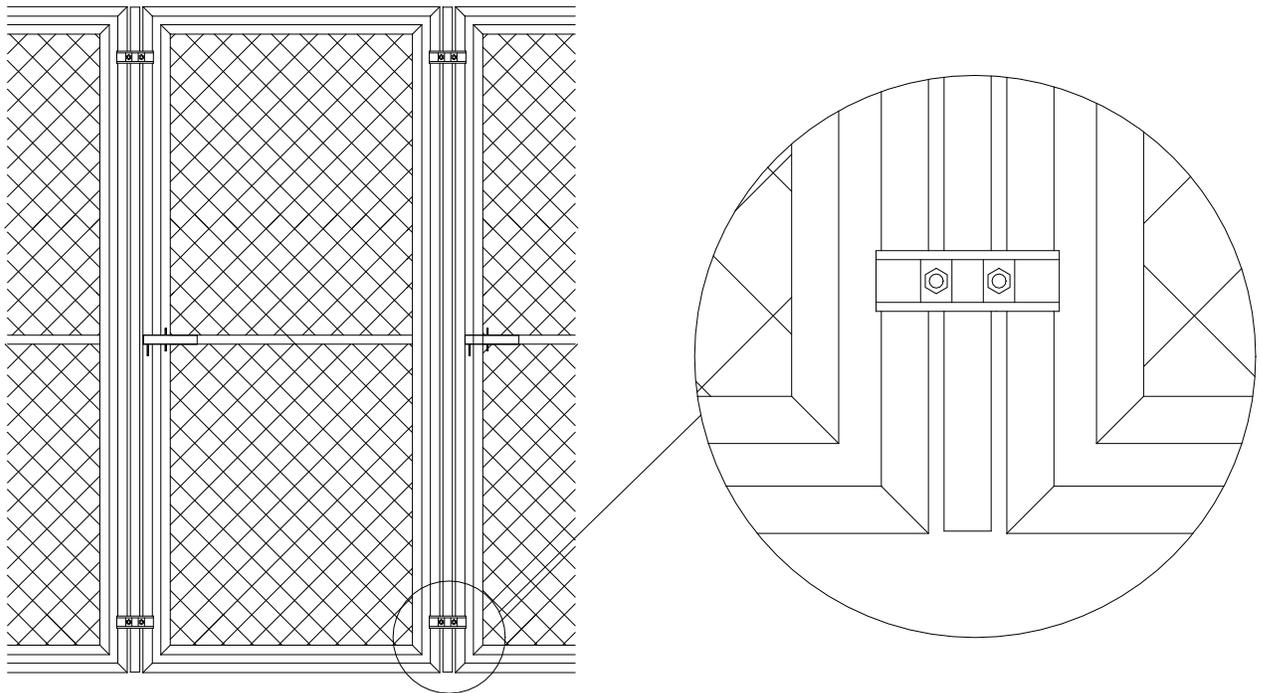

**Figure F.1**
1. Attach the filler pipes to the front end of each division panel with two Square-Round clamps (it takes two halves to make up one clamp) approximately 6" from either end of the filler pipe using the 5/16" x 1-3/4" carriage bolts and 5/16" nuts provided (Figure F.1).